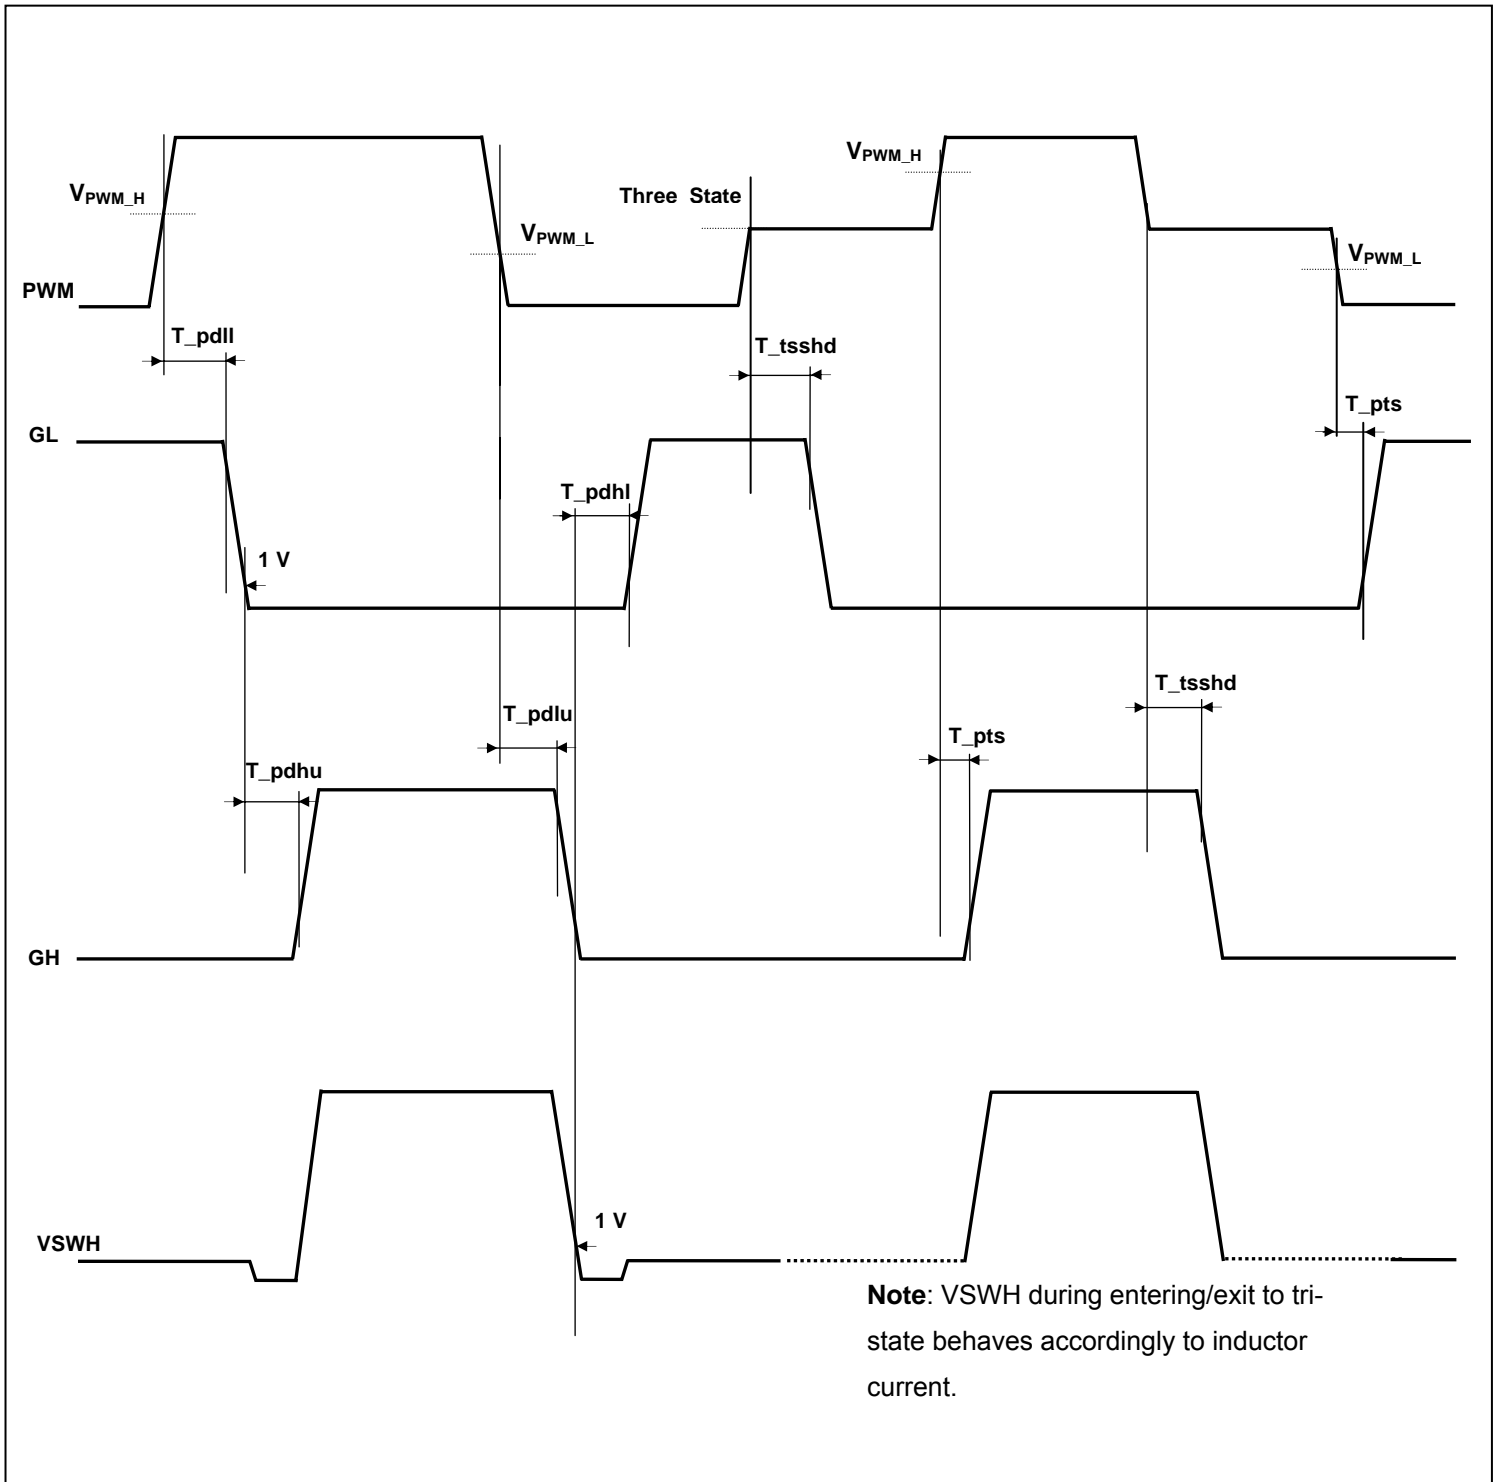

Figure 5: Adaptive Gate Driver Timing Diagram
The TDA21211 driver includes gate drive functionality to protect against shoot through. In order to protect the power stage from overlap, both HS and LS MOSFETs being on at the same time, the adaptive control circuitry monitors the voltage at the "VSWH" pin. When the PWM signal goes low, HS, the High-side MOSFET will begin to turn off, after the propagation delay ( $T_{pdlu}$ ). Once the "VSWH" pin falls below 1V, LS, the Low-side MOSFET is gated on after the predefined delay time, ( $T_{pdhl}$ ). Additionally, the gate to source voltage of the HS-MOSFET is also monitored. When VGS(HS) is discharged below 1V, a threshold known to turn HS off, a secondary delay is initiated, ( $T_{pdhl}$ ), which results in LS being gated "ON" irregardless of the state of the "VSWH" pin. This way it will be ensured that the converter can sink current efficiently and the bootstrap capacitor will be refreshed appropriately during each switching cycle. See Figure 5 for more detail.